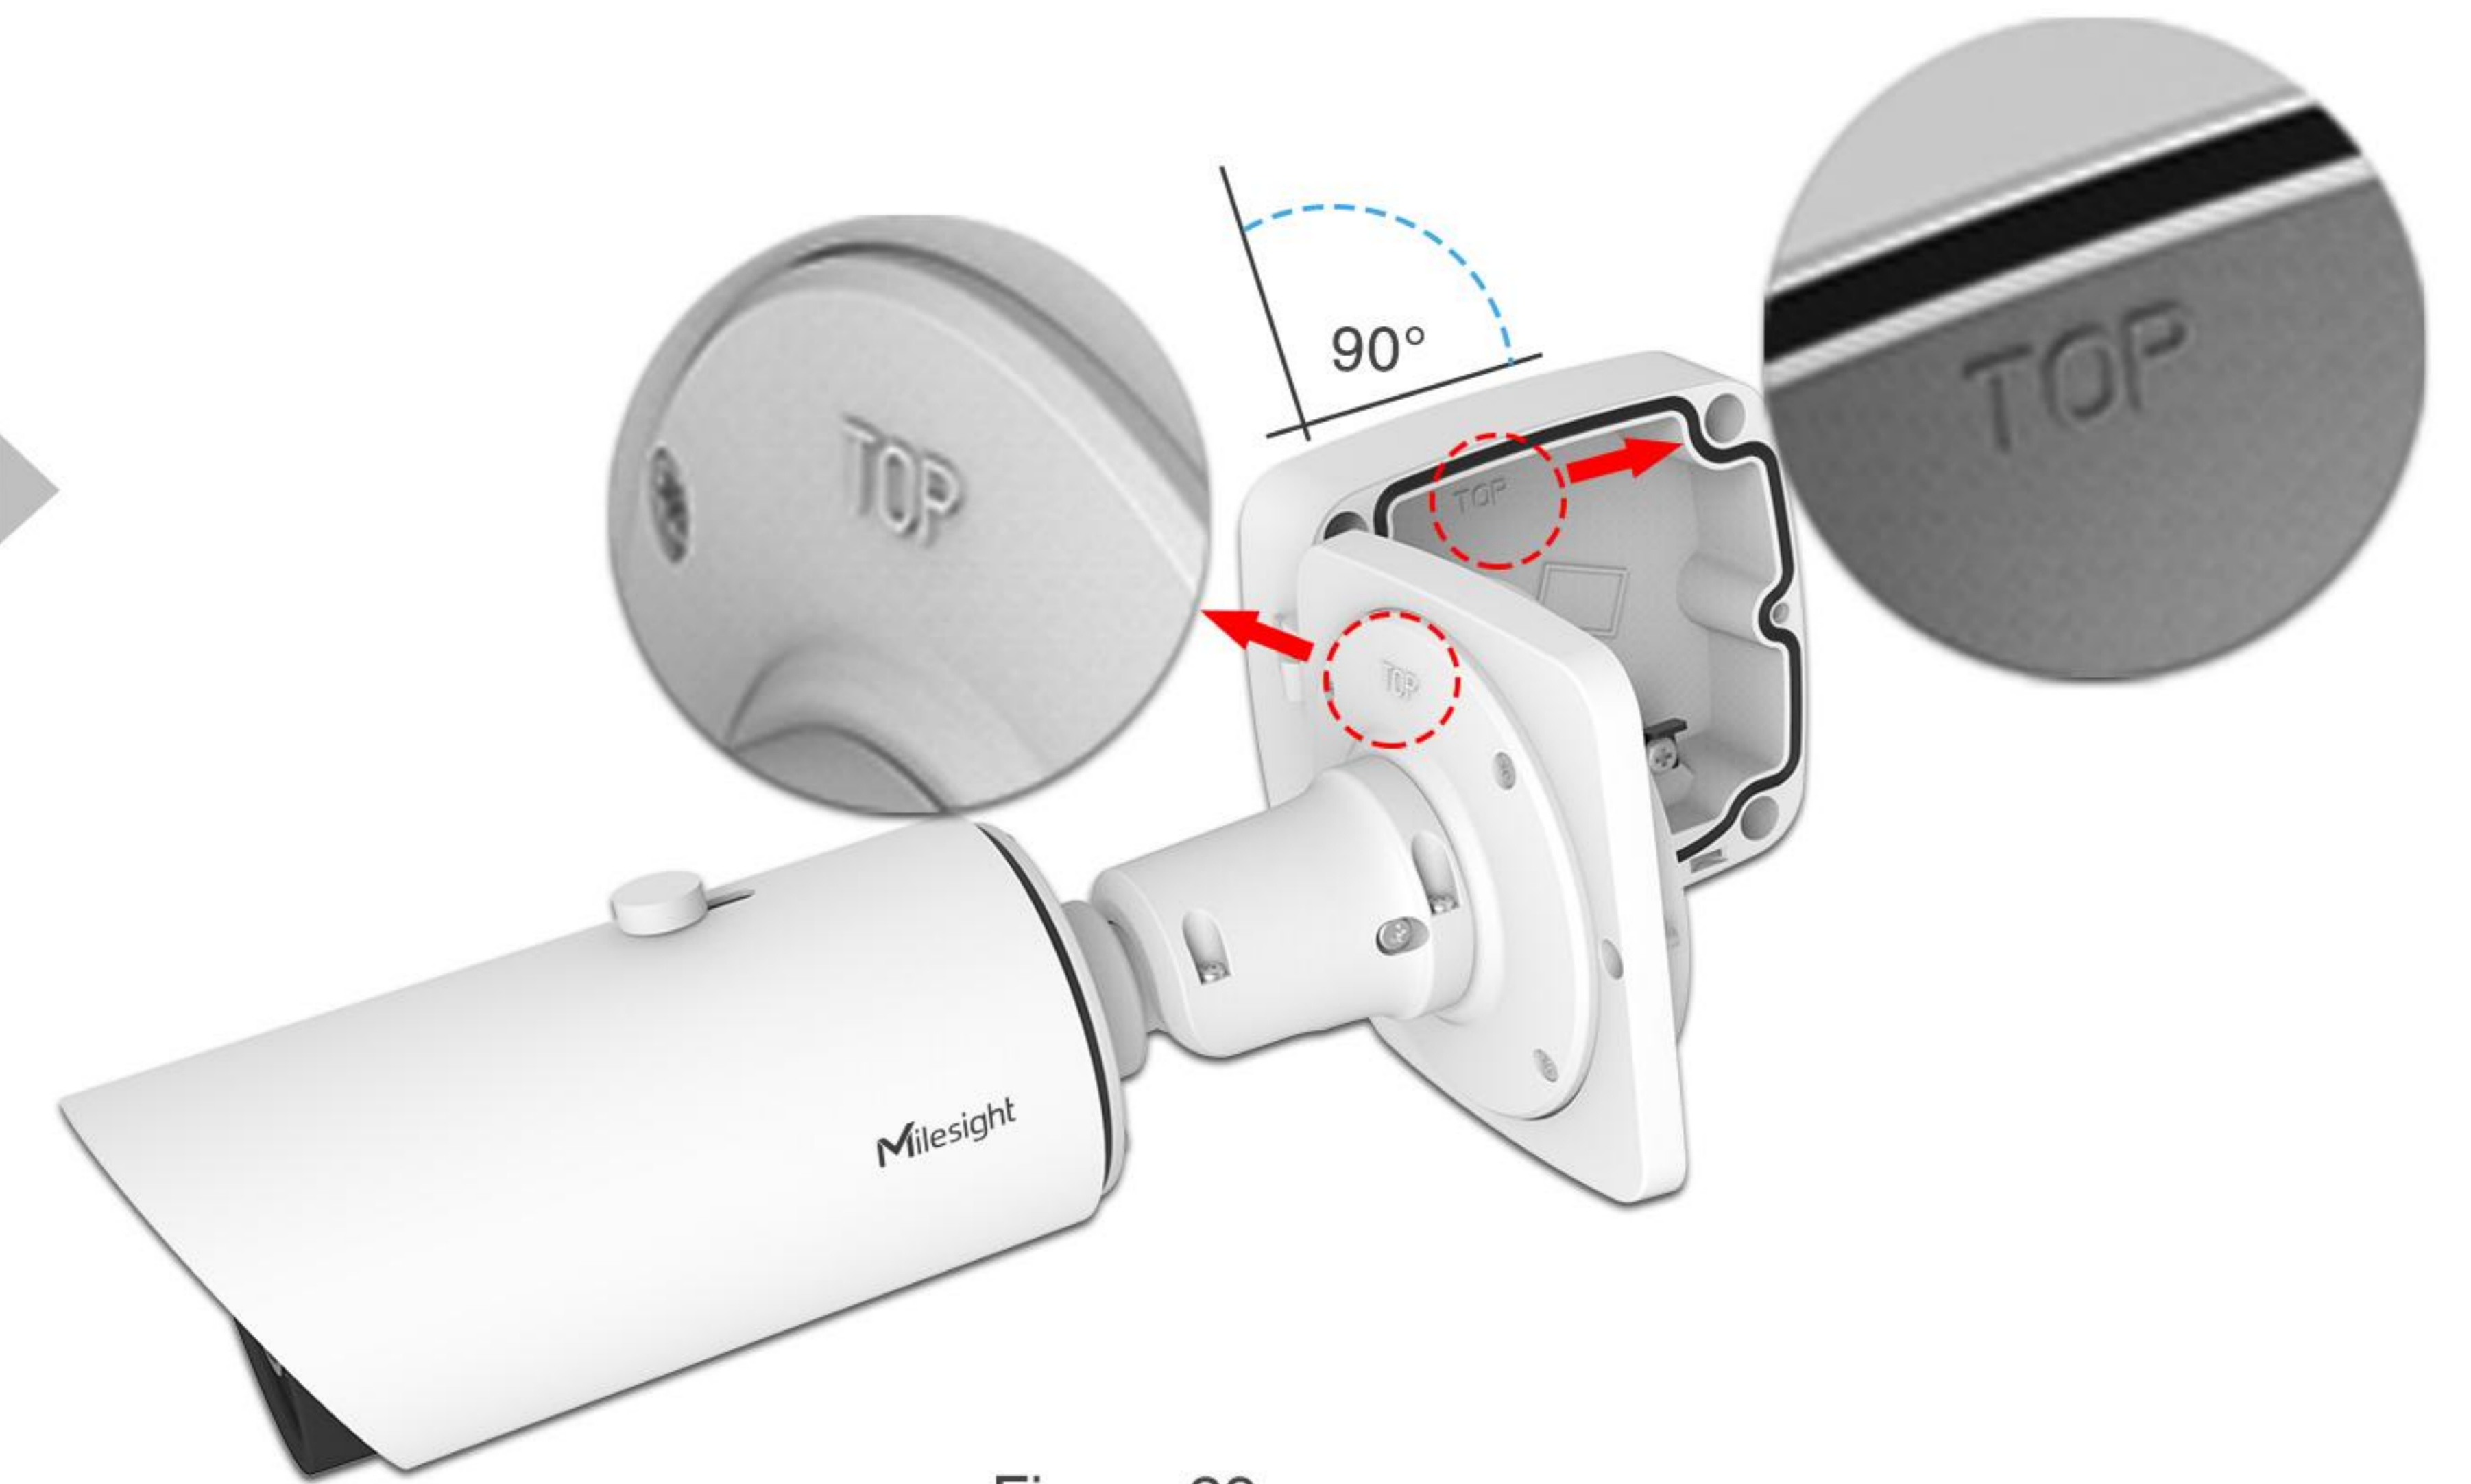

Figure 29
**Step 4:** Reinstall the Front Cover with the Bullet to the Rear Cover (Making sure that the Front Cover is installed from the direction that roughly perpendicular to the Rear Cover). Similarly, pay attention to the two “Tops”. The “Top” on the Bullet shall be aligned to the “Top” on the Junction Box (Figure 29). Then fix the screws on the junction part;